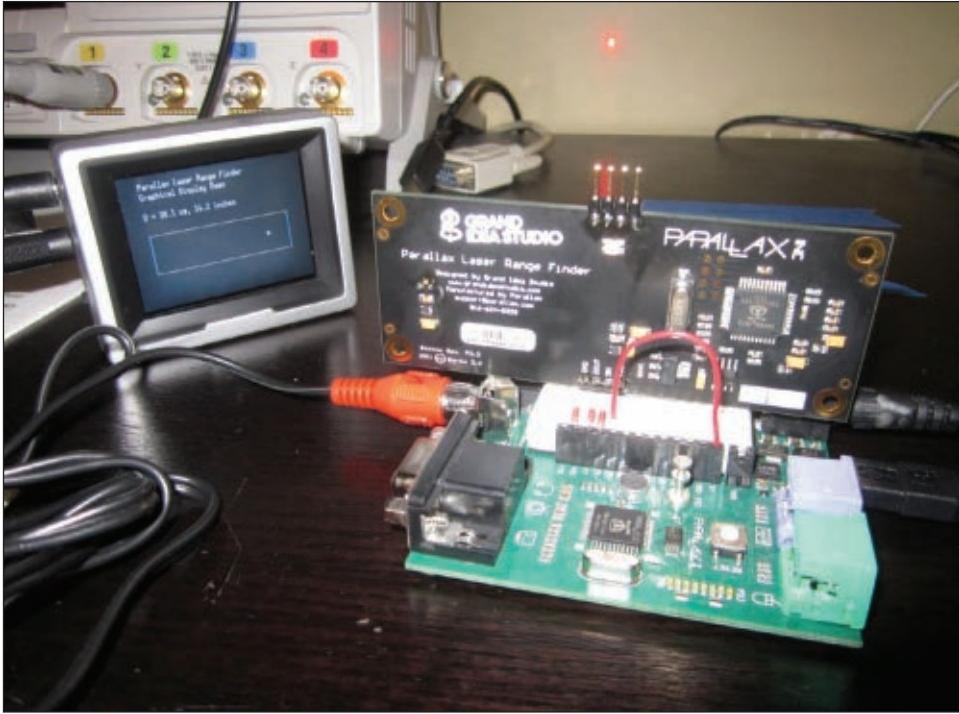

FIGURE 7. Demo – Propeller Graphical.
- **Graphical Interface.** Using the Propeller as a host (a separate Propeller, not the one onboard the LRF module), the distance between the LRF and the target object is displayed in text and graphical form via composite video output (**Figure 7**). Video: www.youtube.com/watch?v=MqYRM6calOI.